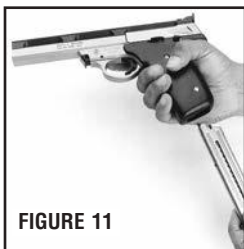

FIGURE 11
- Remove the magazine (FIGURE 11).